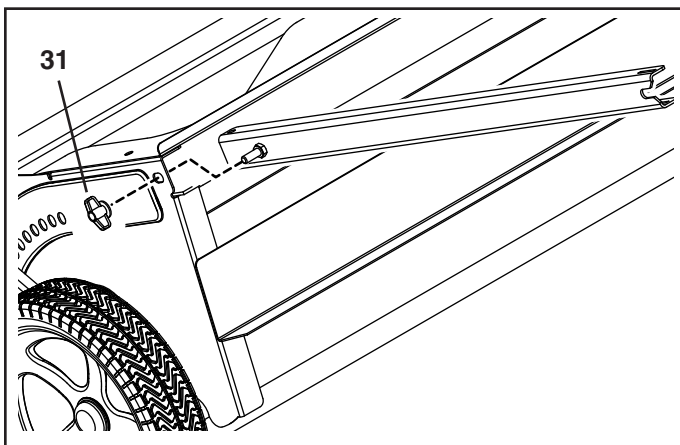

FIGURE 2
2. Secure each bag arm channel to the side of the sweeper housing with a plastic wing nut (31) installed onto the bolt assembled in step 1. See figure 2.